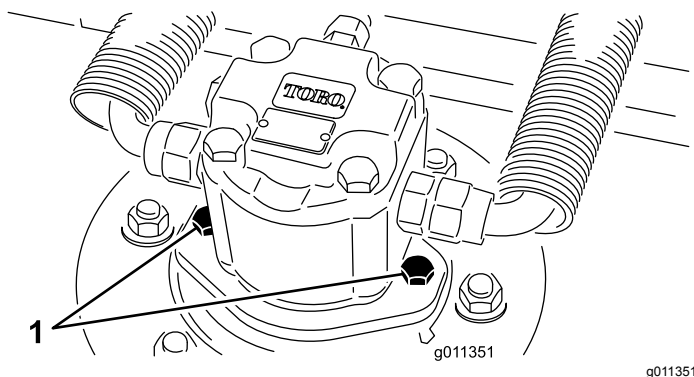

Figure 55
2. Disconnect and remove the hydraulic motor from the deck (Figure 55). Cover the top of the spindle to prevent contamination.
4. Install the hydraulic motor to the deck (Figure 55). Make sure that the O-ring is in position and not damaged.